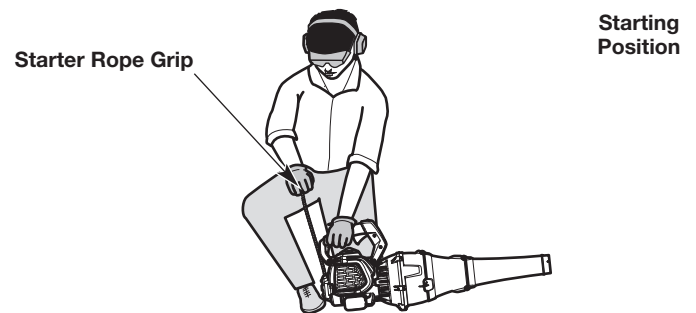

Fig. 8
**WARNING:** Avoid accidentally starting the unit. To avoid serious injury, the operator and the unit must be in a stable position when pulling the starter rope (Fig. 8).
4. Crouch in the starting position (Fig. 8).